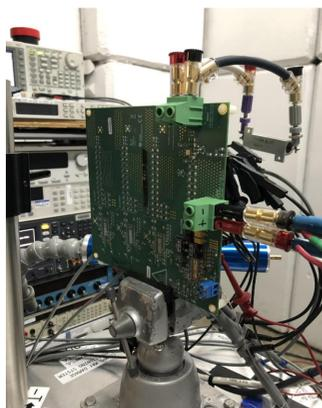
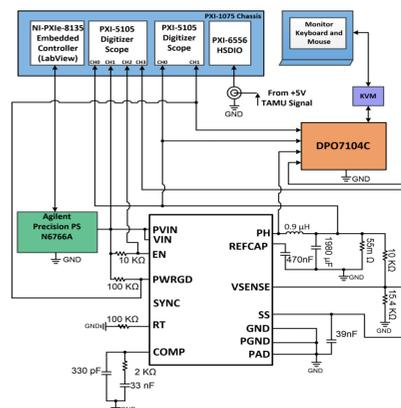

Fig. 3. Photograph of the TPS7H4001-SP mounted on the TPS7H4001EVM-CVAL in front of the heavy-ion beam port exit at the TAMU cyclotron facility.
Fig. 4. Block diagram of the setup used for the SEE testing at the TAMU cyclotron facilities.
The SEE characterization was conducted using the TPS7H4001EVM-CVAL. Heavy-ions cocktail was provided by the Texas A&M cyclotron facility using the 15MeV/amu line. Table 1 shows the calculated Range and LET_{EFF} for the heavy-ions used during the test campaign. The numbers were calculated using a custom application based on the latest SRIM-2013 [1] models. A picture of the device in front of the beam port is shown on Fig. 3. Power was provided to the TPS7H4001-SP using a N6766A Power Supply (PS) module mounted on a N6705C PS Rack, in a 4-wire configuration. P_{VIN} and V_{IN} were tied together at all times. For most of the test campaign a discrete power resistor of 55mΩ, dissipating 18 A was used. The only instances where it was not used, was during Destructive-Single-Events-Effects (DSEE) load dependency sweep. For which a Chroma load model: 63360-80-80 replaced the discrete resistor. With the exception of the DPO digital oscilloscope, all equipment was controlled and monitored using a custom developed LabVIEW® program (PXI-RadTest) running on a NI-PXIe-8135 Controller. The DPO was operated using the fast frame mode. When operated on this mode, the dead time is 20μs. A block diagram of the test setup used for SEE characterization of the TPS7H4001-SP is illustrated in Fig. 4. The device was heated using a convection heat gun and cool-down using a Vortex Tube. The external heat elements were aimed at the die, and a K-type thermocouple attached to the thermal pad vias with thermal paste was used to monitor the temperature. The PS current and the +5V from TAMU were monitored at all times.